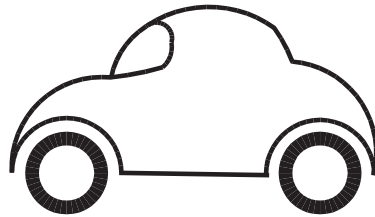

Fig. 15-13
7. Draw the car in Fig. 15-13 using the **PLINE** and **PEDIT** commands.